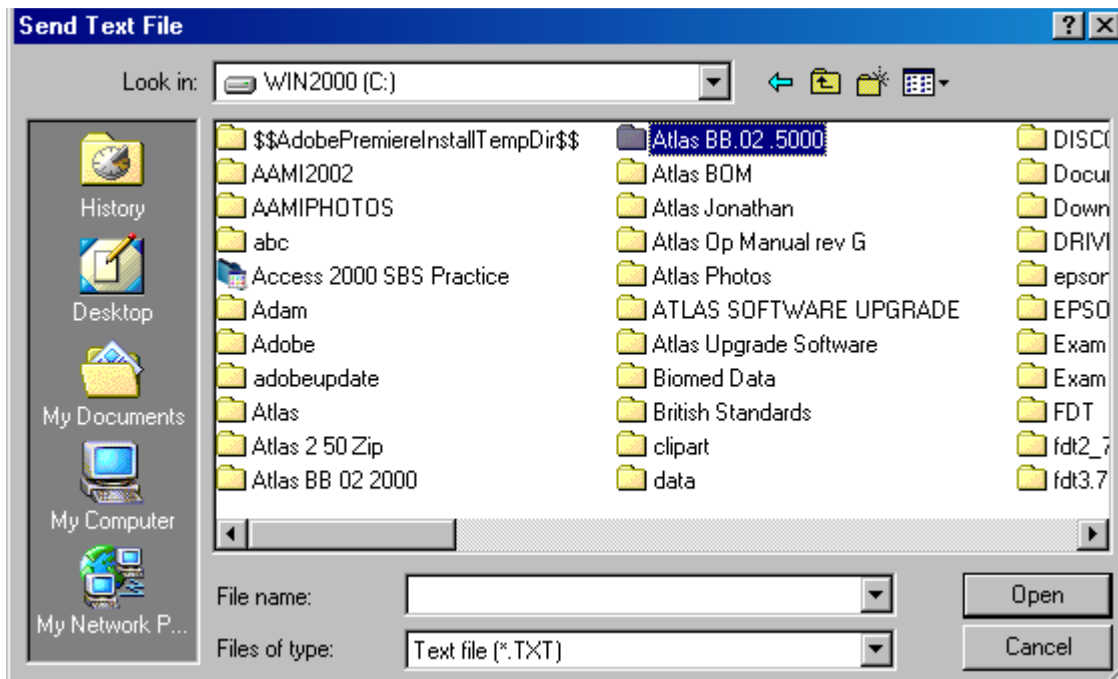

Figure 2-9. Choosing directory where NVRAM files are stored.
6. Another window will then appear and prompt you for the location of the files. Double left click on that folder to open that directory. You can also run these programs from the CD. See example in Figure 2-9.